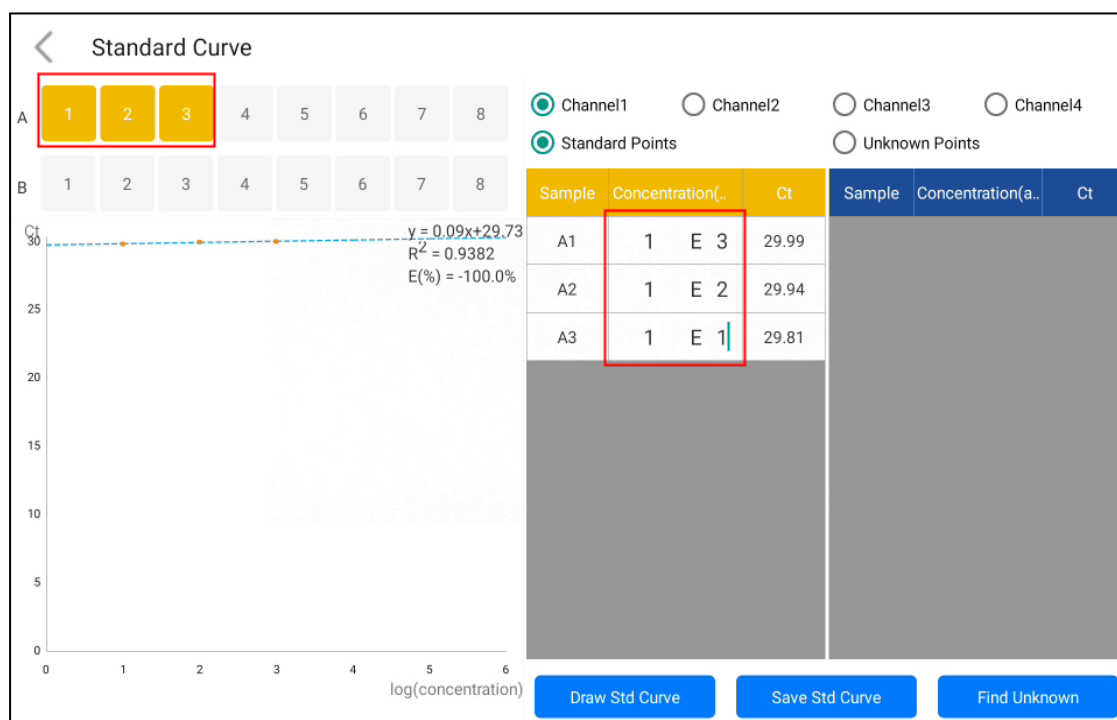
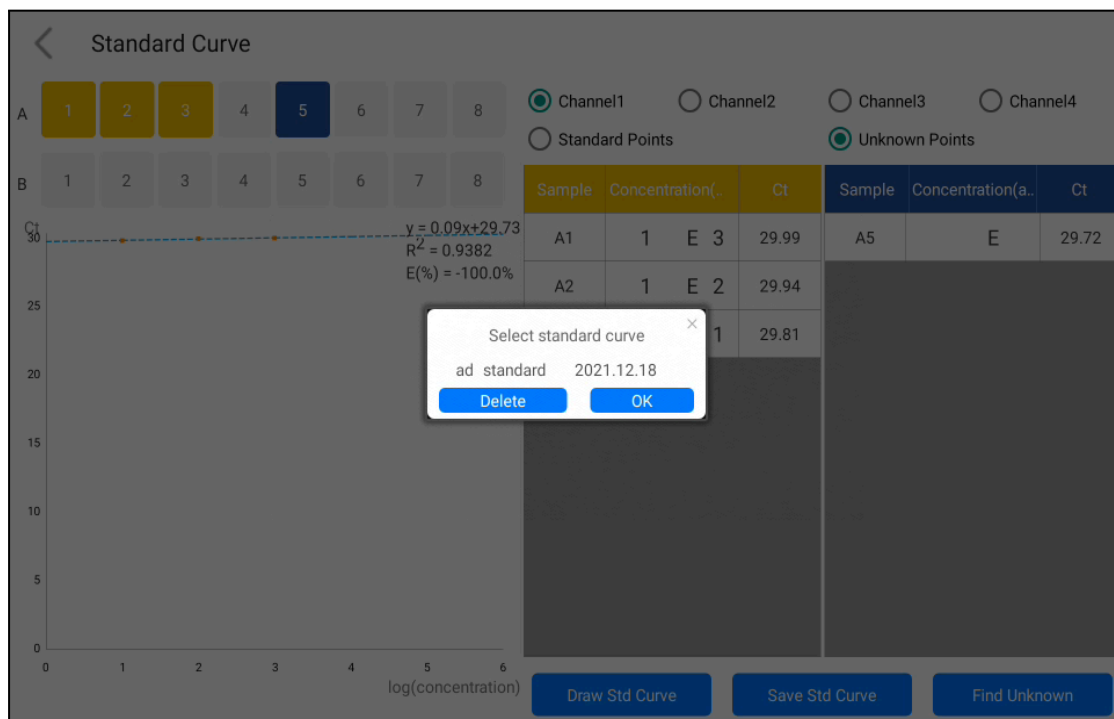

Figure 4.11. pixl™ Real-Time PCR Platform Standard curve interface.
Figure 4.12. pixl™ Real-Time PCR Platform Selecting the standard curve used for calculation.
- Click the Standard Curve button in the data interface to enter the standard curve interface (Figure 4.11).
- Manually input the standard concentration, calculate the standard curve, and save (Figure 4.11 and Figure 4.12).